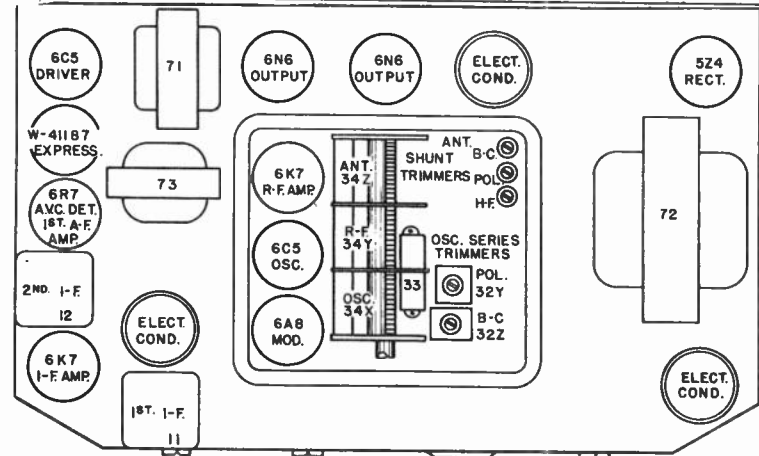

Fig. 2. Top View 1016
- (c) To align the series trimmer (See Fig. 2), set the signal generator to the frequency indicated below (d) and then tune-in this signal with the station selector for maximum output. To obtain the best adjustment for the series trimmer, it will be necessary to rotate the station selector back and forth slightly while adjusting the trimmer for maximum output. Minor tolerance variations in series alignment at 2500 kilocycles in the Police Band and a 6000 kilocycles in the High Frequency Band may be compensated for by slight repositioning of the grid lead of the antenna coil in the Band affected.